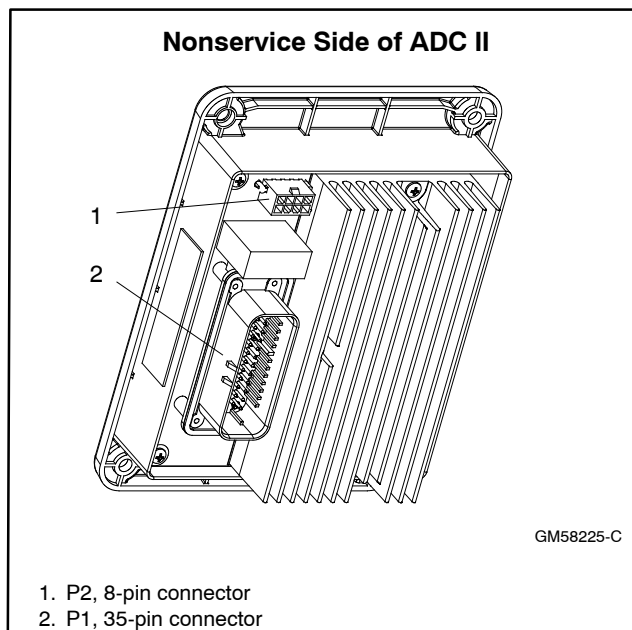

Figure 4-15 Controller Connections
6. Disconnect plugs P1 and P2. See Figure 4-15.